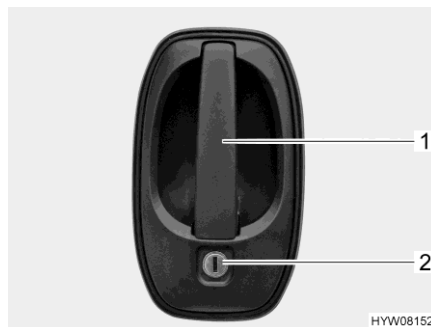

Fig. 53 Door lock (driver's door/ living area door, outside)
- Insert the key into locking cylinder (Fig. 53,2) and turn until the door lock is unlatched.
- Pull on the door handle (Fig. 53,1). The door is open.
- Insert the key into locking cylinder (Fig. 53,2) and turn until the door lock is engaged.